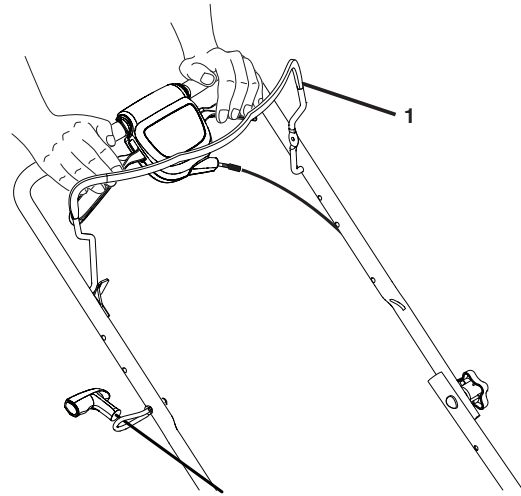

Figure 16
1. To stop engine, release operator presence control bar (Figure 16).